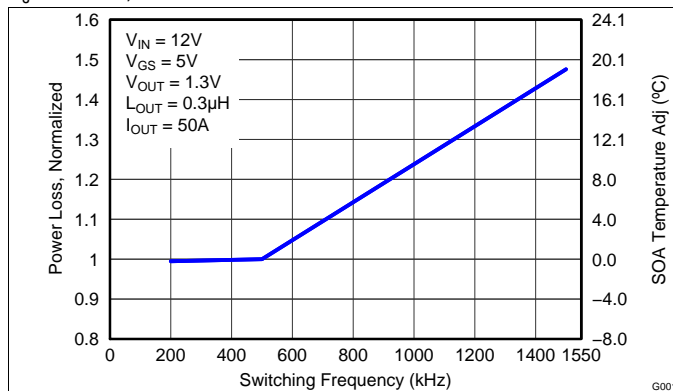

Figure 7. Normalized Power Loss vs Switching Frequency
- Normalized power loss for switching frequency ≈ 1.15 (Figure 7)
- SOA adjustment for switching frequency ≈ 6.0°C (Figure 7)